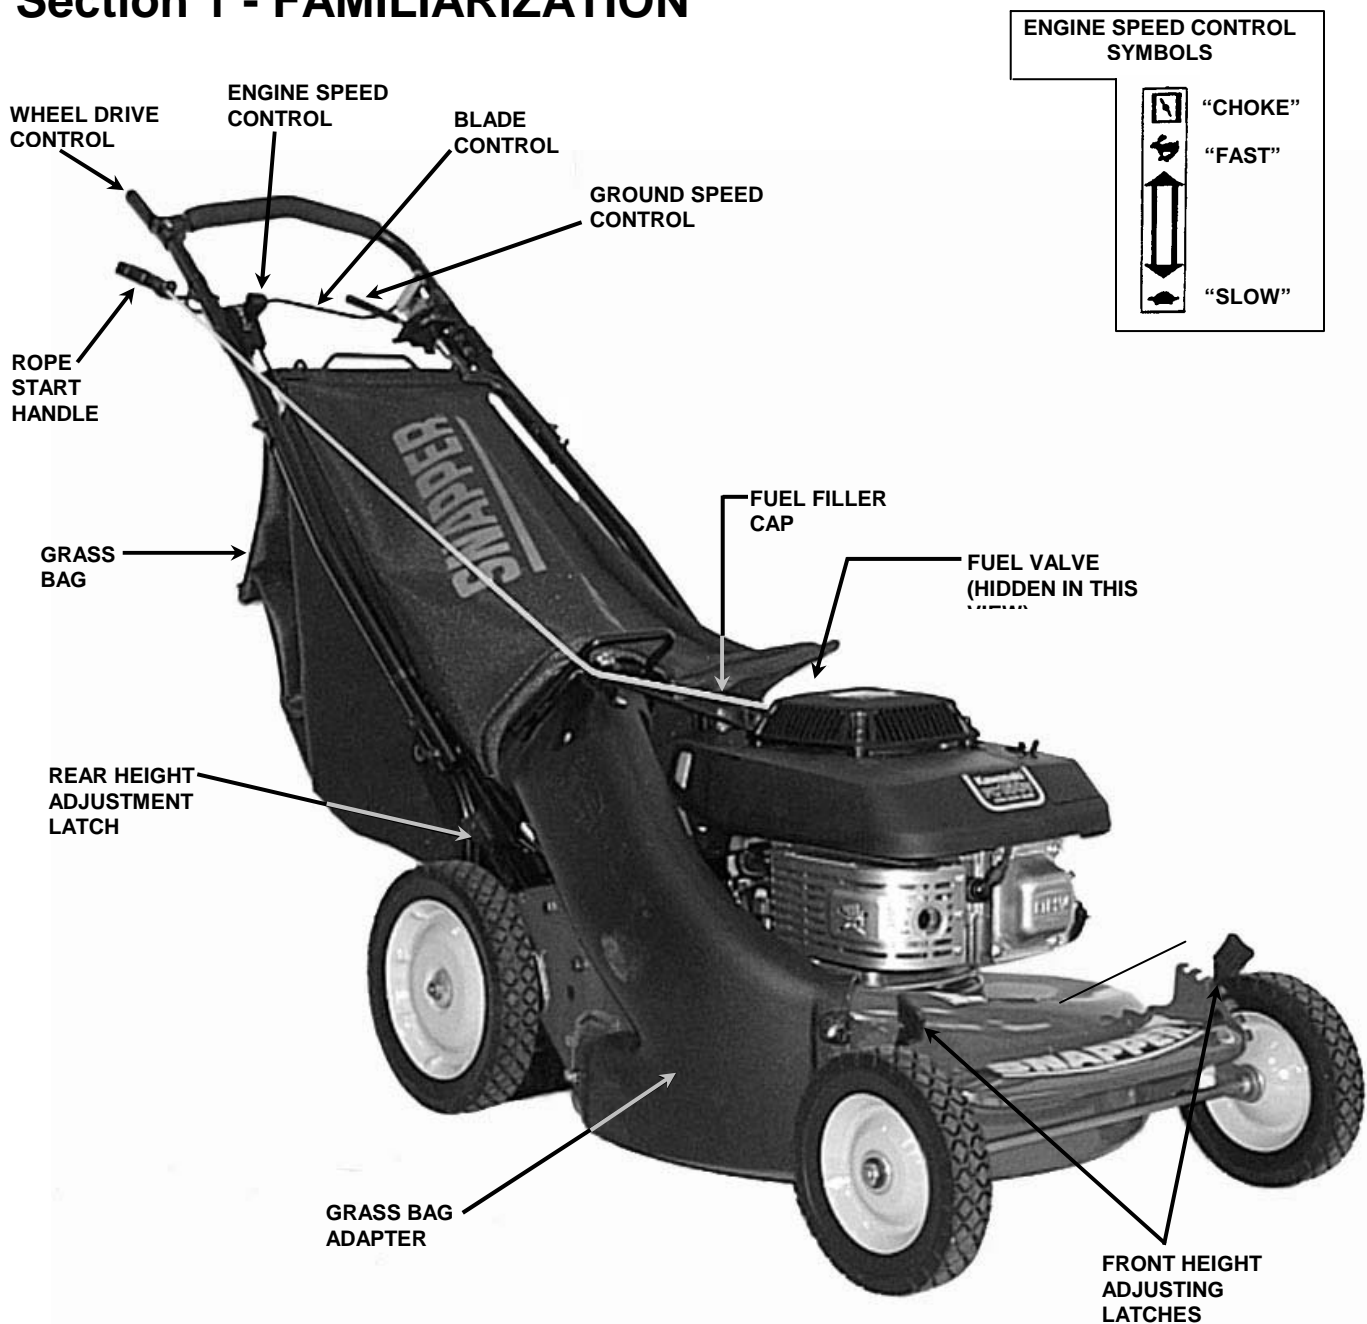
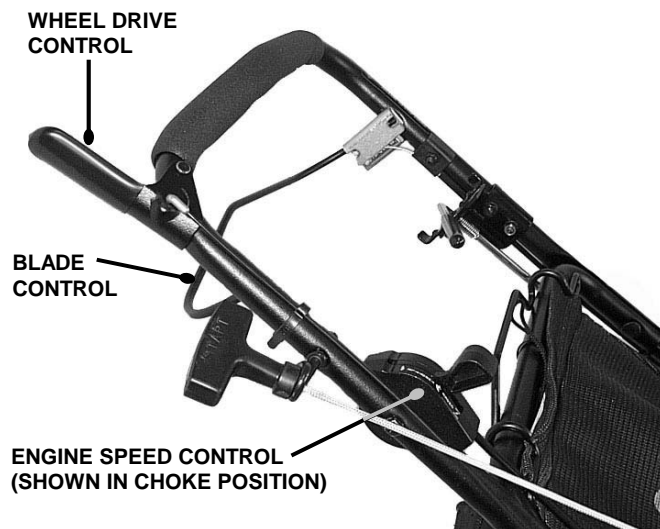

FIGURE 1.1
FIGURE 2.3
The nomenclature drawing above, Figure 1.1, shows the essential parts of the SNAPPER WALK BEHIND MOWERS. It is recommended that all operators of the mower become thoroughly familiar with the controls, parts and operation of the mower before operating. Specific details involving the engine are found in the separate engine owner's manual. Study these manuals before operating and keep both handy for future reference.
1. Turn fuel valve to on. See Figure 1.1. Move engine speed control to the "choke" position. The choke should not be required to restart a hot engine. See Figure 2.3.
- 4.** After engine starts, move engine speed control away from the choke position to the "Fast" (Rabbit) position. See Figure 2.3.